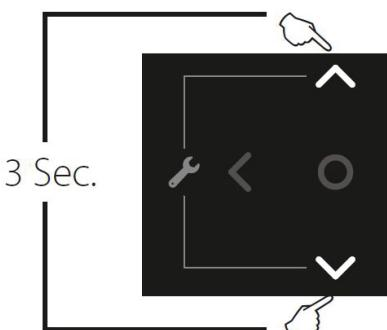

Fig. 1: Installer Button
- To access the Installer screen, touching simultaneously the up and down soft keys for 3 seconds as shown in Fig. 1.